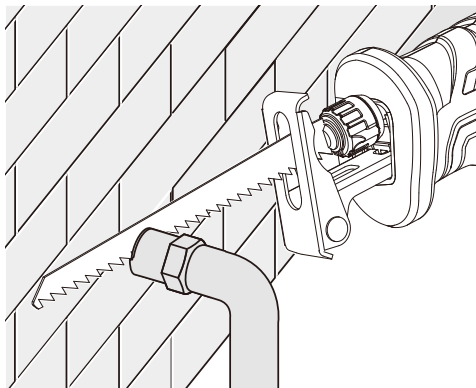

Figure 6
6. FLUSH CUTTING (SEE FIG. 6 & 7)